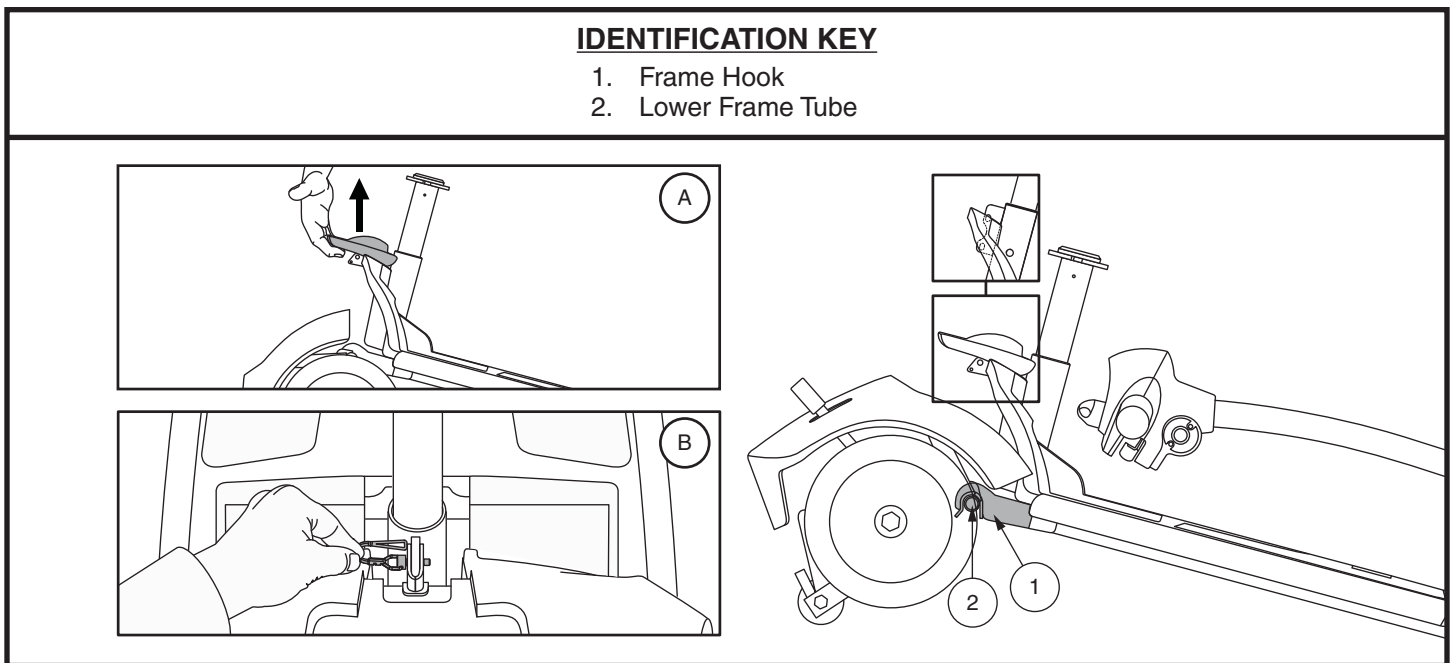

Figure 32. Frame Release Lever (Style A) and Frame Release Lock-up Pin (Style B)
4. Slowly separate the two sections of the Travel Scooter. **See figure 32.**
**NOTE:** Before attempting assembly, tilt the rear half of the Travel Scooter slightly back on the anti-tip wheels as shown in figure 32.
1. Use the frame release lever (or the seat post for models 36, 83, and 84 only) to lift the front section as you align the frame hooks of the front section with the lower frame tube of the rear section. **See figure 32.**
2. Once the frame hooks are over the lower frame tube, lower the front section and pivot the rear section simultaneously. This will engage the frame lock-up automatically for models 39, 40LX, 40X, 44X, 40E, 44E, 44LX, 49, 50LX, 54LX, 53, 53HD, 54, 54HD, 66, 67, 73, 74, and Jazzy ZTS. For models 36, 83, and 84, you will also need to reinstall the frame lockup pin to complete the body assembly. **See figure 32.**